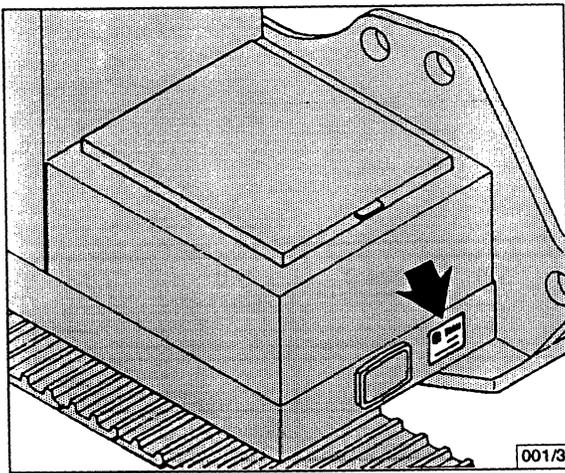

Fig. 15 Model of excavator
- a) model of excavator (fig. 15)